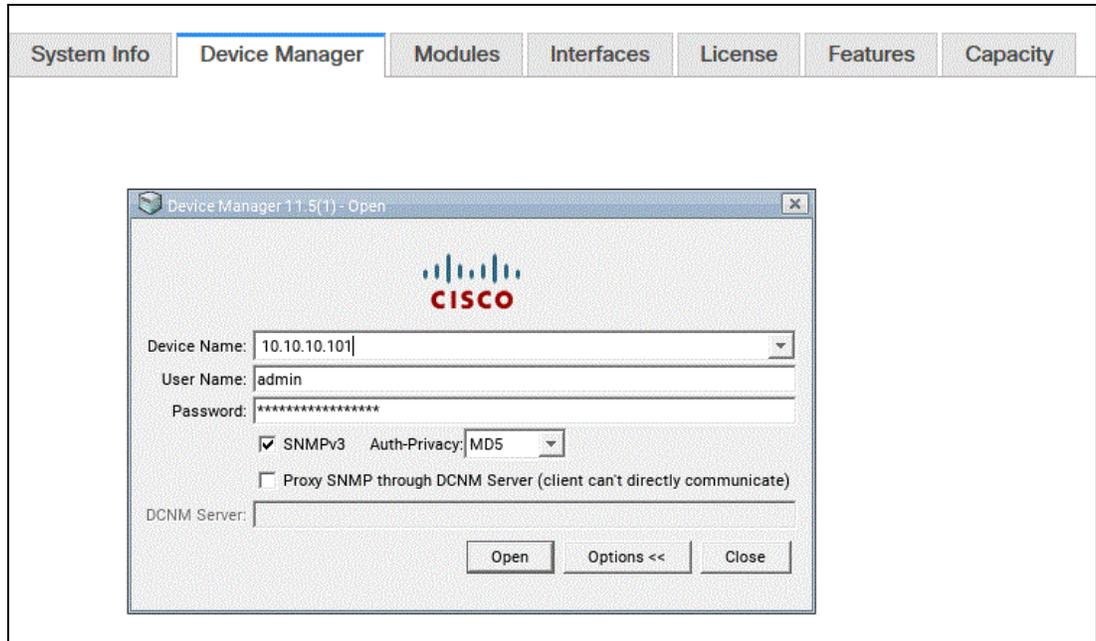

Figure 6-36 Device Manager
3. Log in to Device Manager with your user credentials. The logon window is shown in Figure 6-36 on page 227.